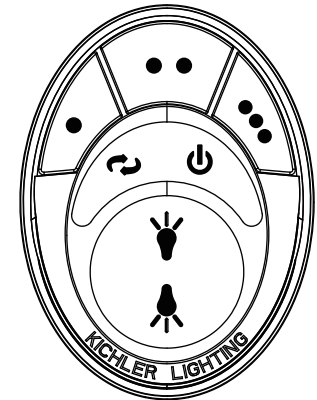

Fig. 28
Step 5. The buttons control the fan speed and light as follows: (Fig. 28)